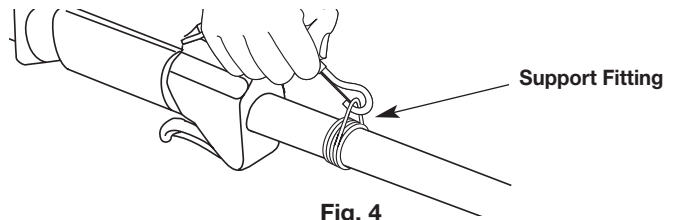

Fig. 4
3. Put the harness on over head and onto shoulder. Snap it on to the support fitting (Fig. 4).